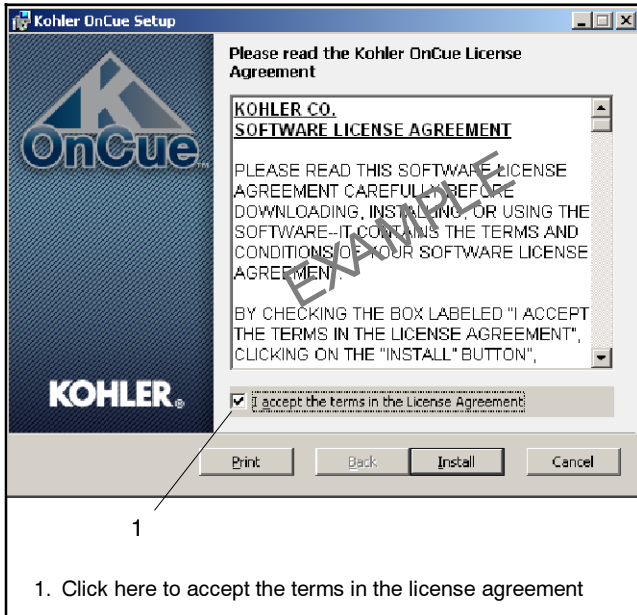

Figure 1-2 Kohler OnCue Installation Screen with License Agreement
4. Read the license agreement, click the box to accept the terms in the license agreement, and click on the Install button. See Figure 1-2.